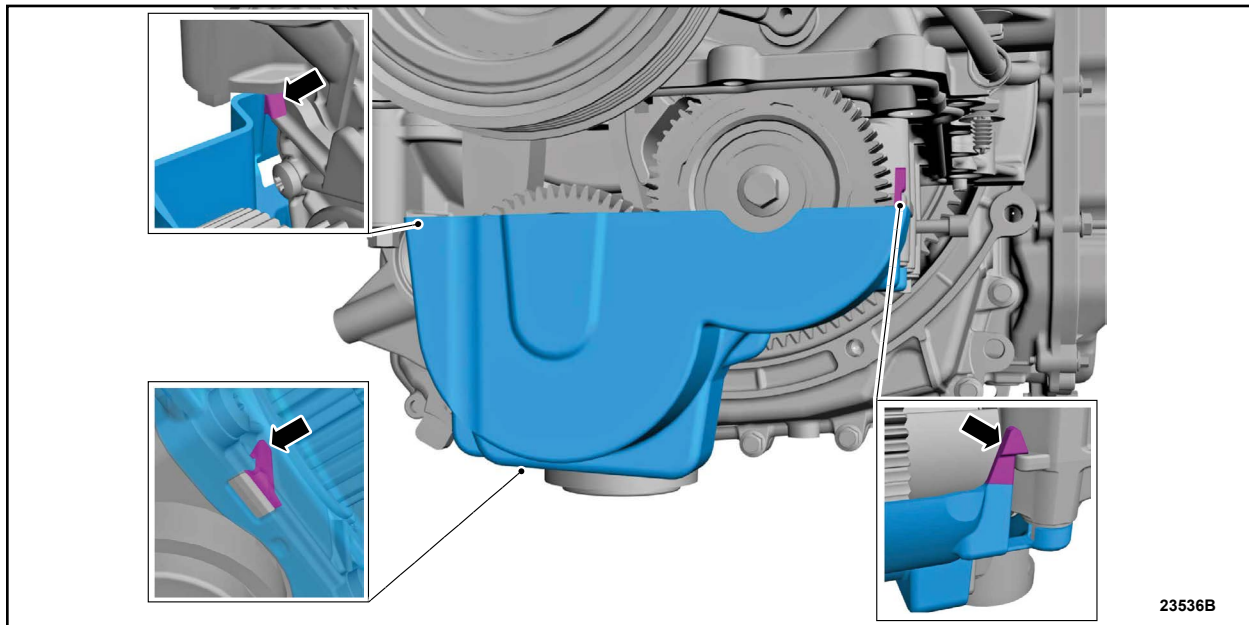

FIGURE 1
3. Remove the oil pump cover. See Figure 1.